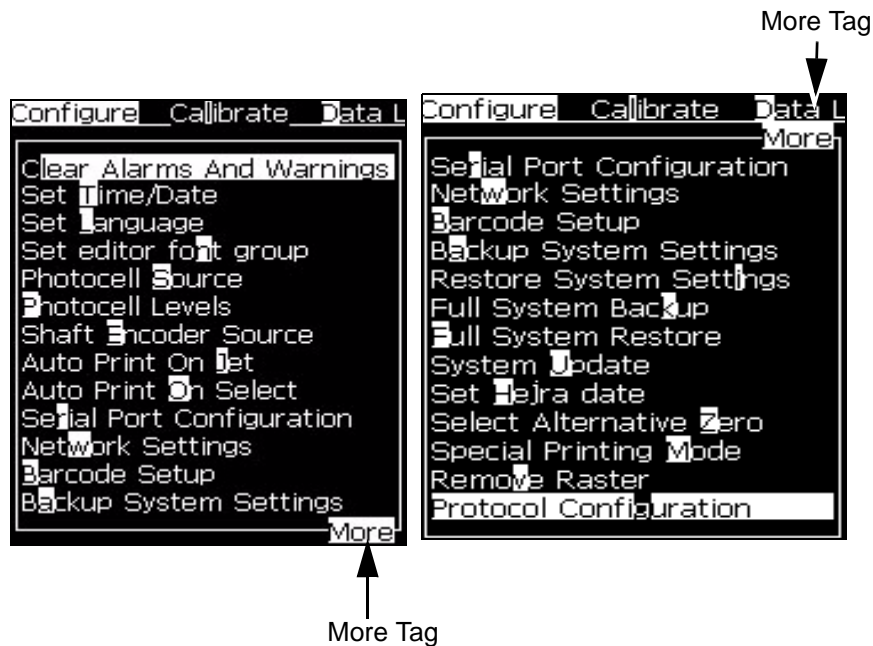

Figure 5-2: The More Tag
**Note:** If there are many items on the menu to display on screen, the label **More** appears next to the top or bottom of the menu. For example, refer to Figure 5-2. This label indicates that more menu entries are available above, or below the items that are displayed now. Press the *Up arrow* key or *Down arrow* key to scroll through the items.